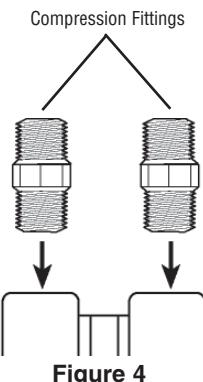

Figure 4
4. Screw one fitting into the filter outlet and the other fitting into the filter inlet (both are labeled on filter head assembly.) Tighten both fittings with a wrench. **Do not overtighten.** **Overtightening may result in a cartridge crack which may lead to fluid leaking** (Figure 4) (Figure 4)